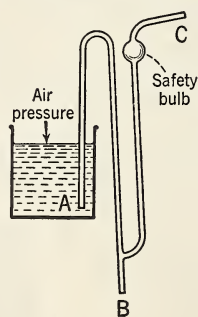

FIG. 118. The aspirating siphon.
10. The aspirating siphon is used with corrosive liquids. Study Fig. 118, and tell how you would fill such a siphon with liquid to start its action.